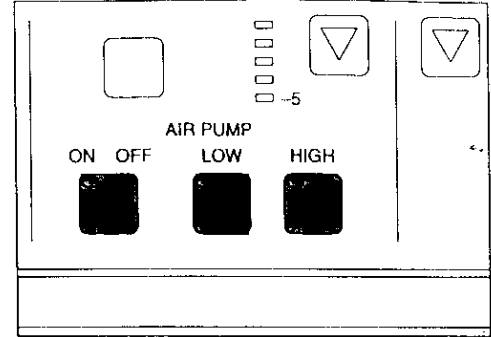

Fig. 39
There are two (2) air pump levels, LOW and HIGH. The switches will beep when pressed and the LED on the level switch will light to indicate the selected level(Fig. 39). The air pump level will control the pressure of both the air and water delivery .